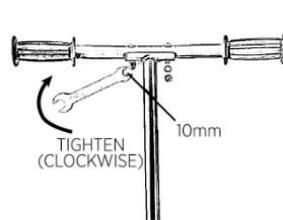

Fig. 3
Step 2: Install one lock washer and nut onto each of the two bolts. Tighten with wrench (Fig.3).